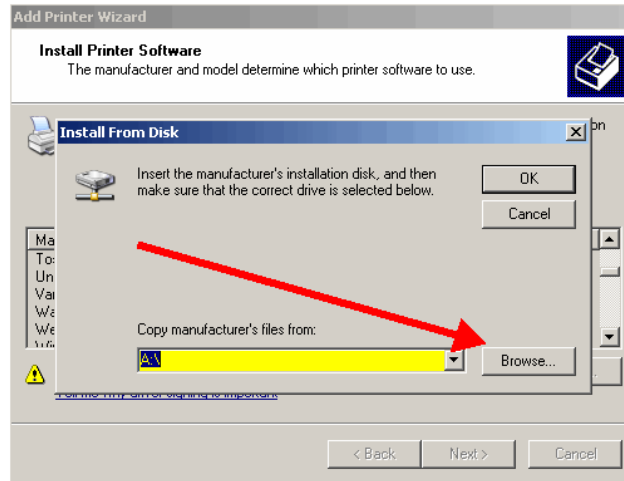

Figure 3-8
3.2.8. Click [**Browse**] on the *Install from Disk* window. (Figure 3-8)